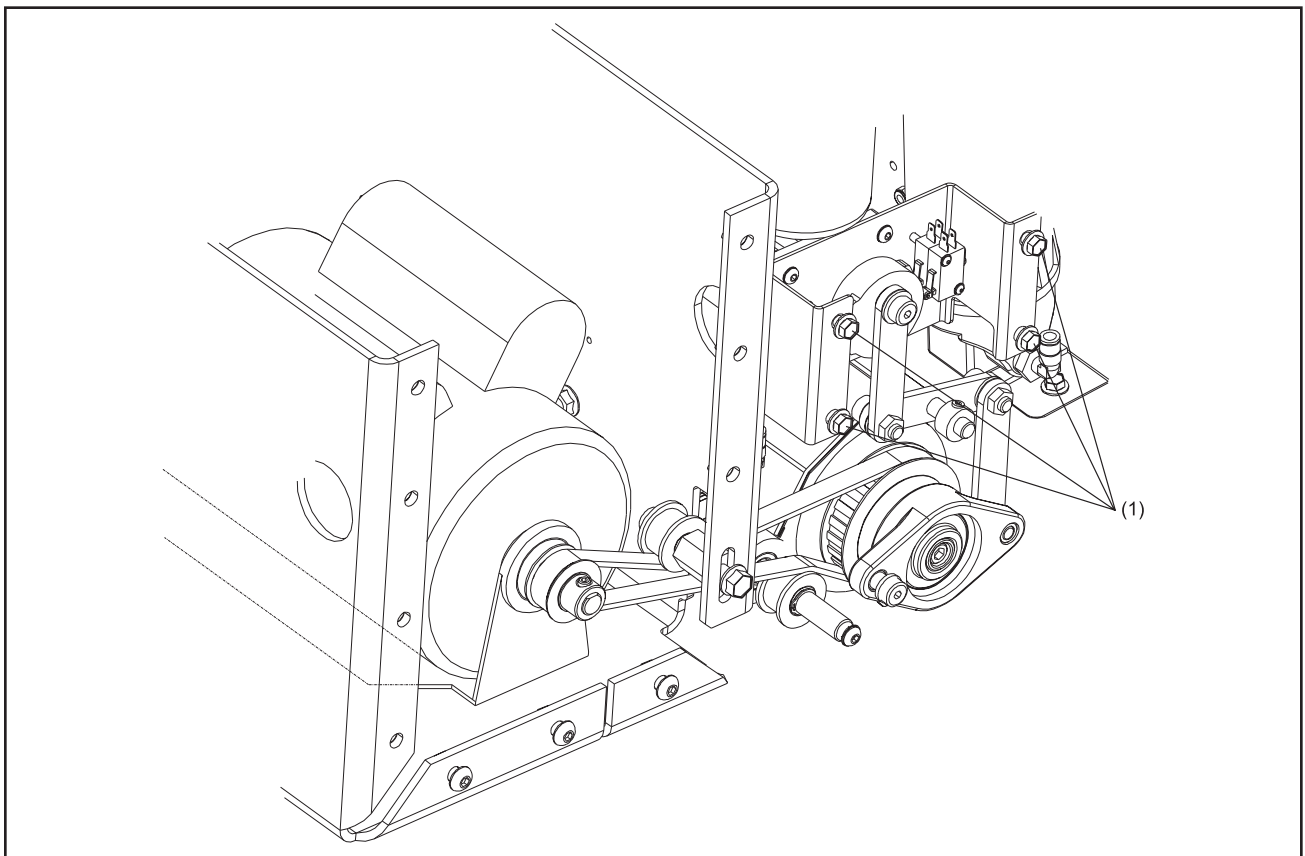

Figure 5-20. Adjusting the Buffer Brush
5. Loosen the four (4) bolts that mount the brush lifting motor assembly, to the 7-pin side of the machine, using a 3/8" open end wrench. Refer to Figure 5-20.